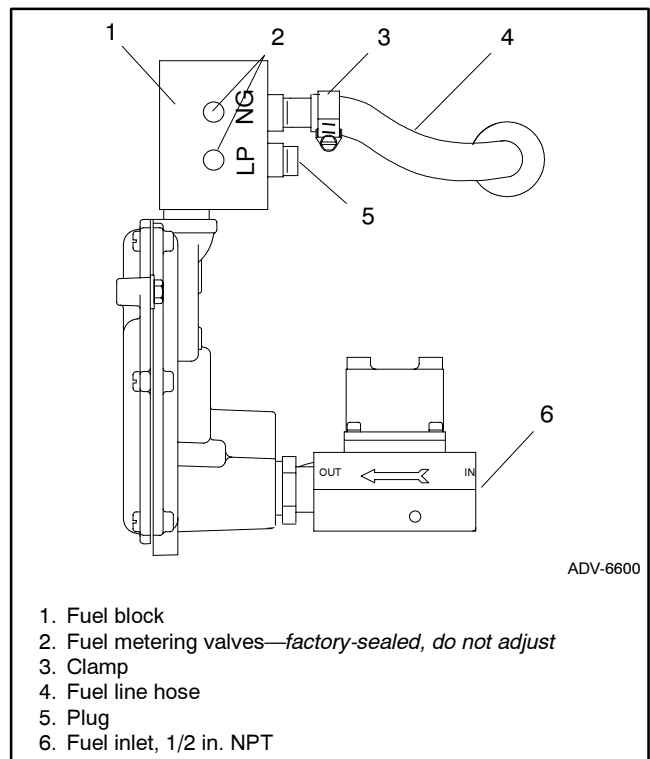

Figure 6-31 Fuel Block Connections, Natural Gas System Shown
5. Remove the hose clamp and fuel hose from the hose fitting in the fuel block. See Figure 6-31.